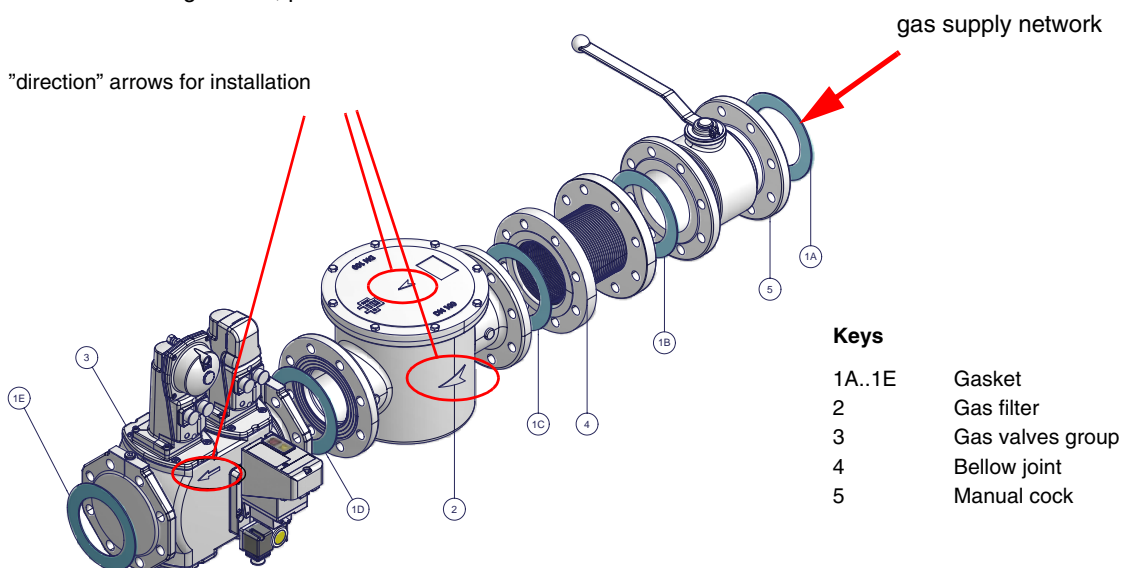

Fig. 6 - Example of gas train
- 1) in case of flanged joints: place a gasket (no. 1A..1E - Fig. 6) between the elements
ATTENTION: once the gas train is mounted according to the diagram on Fig. 6, the gas proving test must be performed, according to the procedure set by the laws in force.